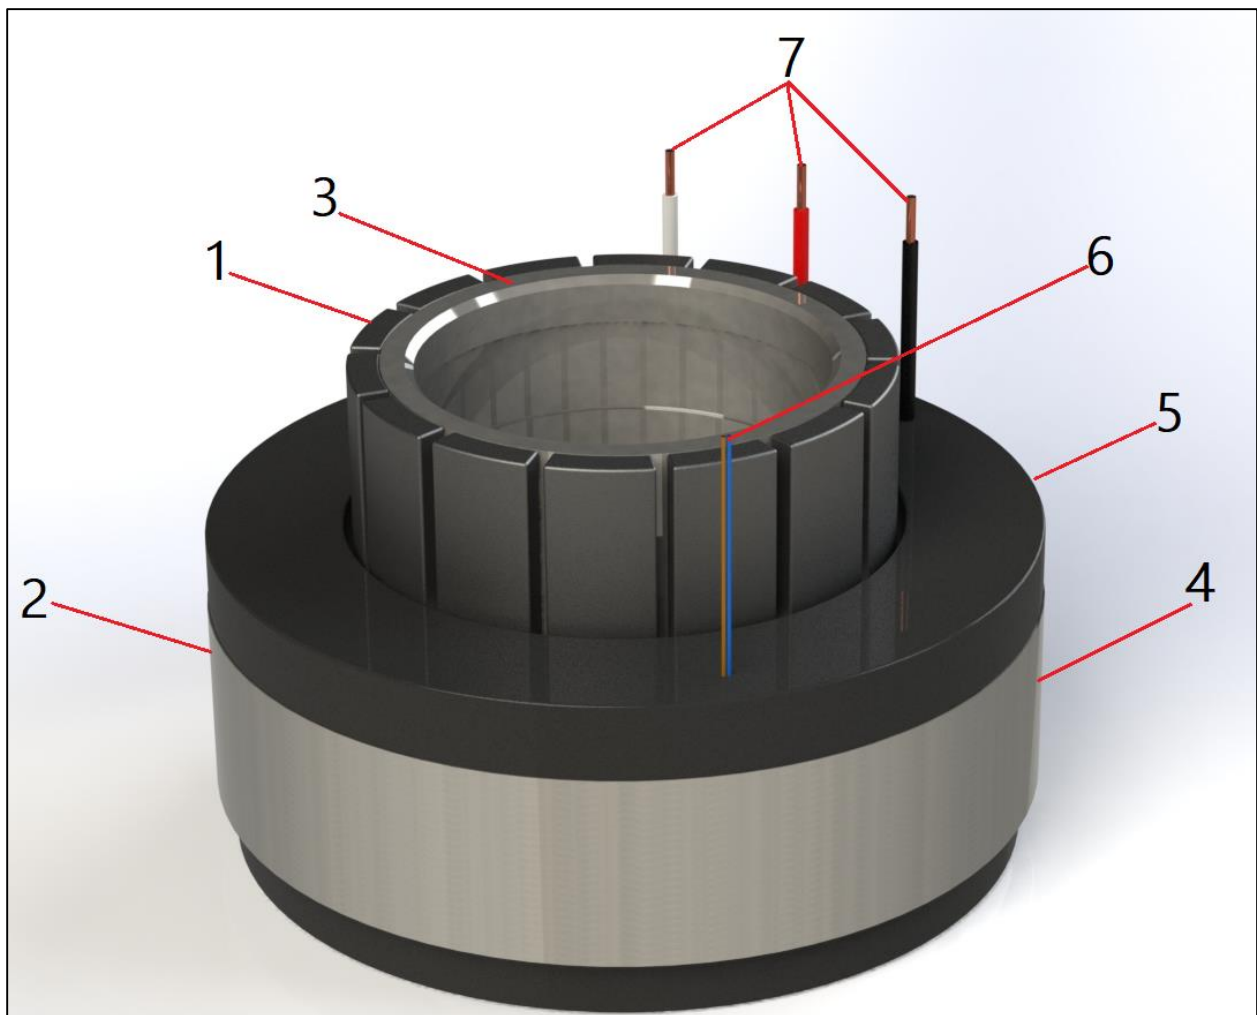

Figure 1-1: Rotor and stator assemblies with cable outputs
Using the special cable output (6) (see Figure 1-1), you can connect the thermistor to a controller. Based on the thermistor readings, the controller will cut the motor off in case the maximum temperature setting is exceeded.